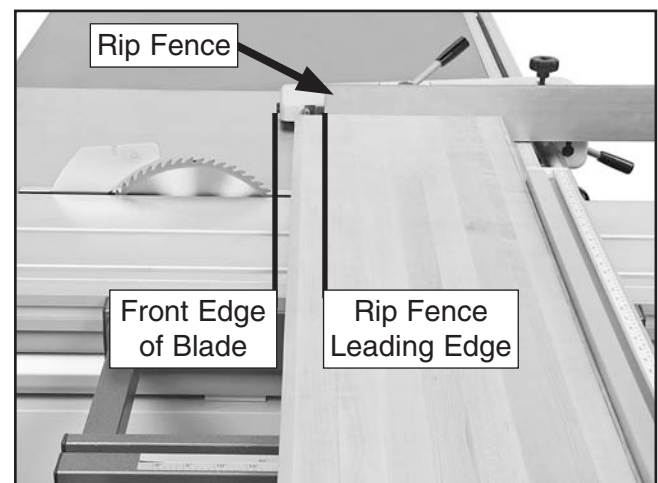

Figure 89. Proper rip fence position when using it as a cut-off gauge.
- Position the rip fence for the desired width-of-cut, then slide the leading end of the rip fence behind the front edge of the main blade, as shown in **Figure 89**.